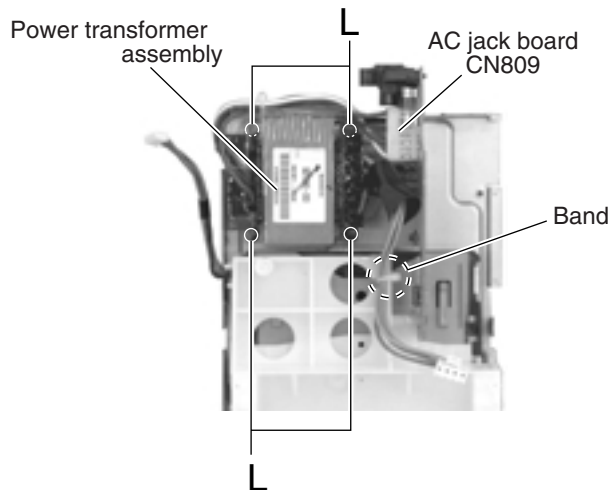

Fig.20
■Removing the power transformer assembly (See Fig.20)